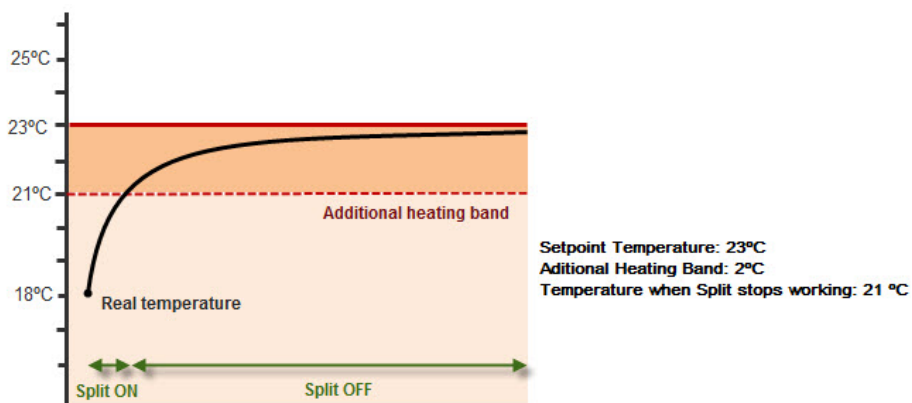

Figure 2.8. Additional Heating example
- **Heating mode:** when the room temperature (reference) is lower or equal than the setpoint minus the additional heating band, the additional system will start working for increasing the heating of the room. The additional heating will be switched off (thus switching off the additional system) when the real temperature is higher or equal than the setpoint minus the band plus 0.5°C. See figure 2.8.